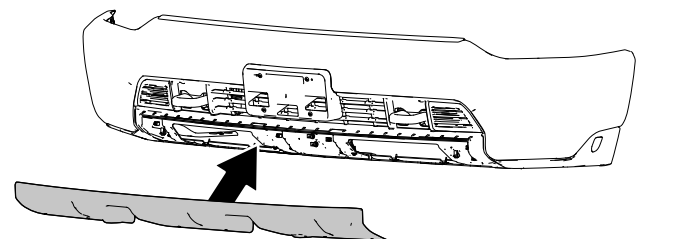

Figure 3
7. Use the previously-removed hardware to secure the new bumper trim to the bumper (Figure 3).